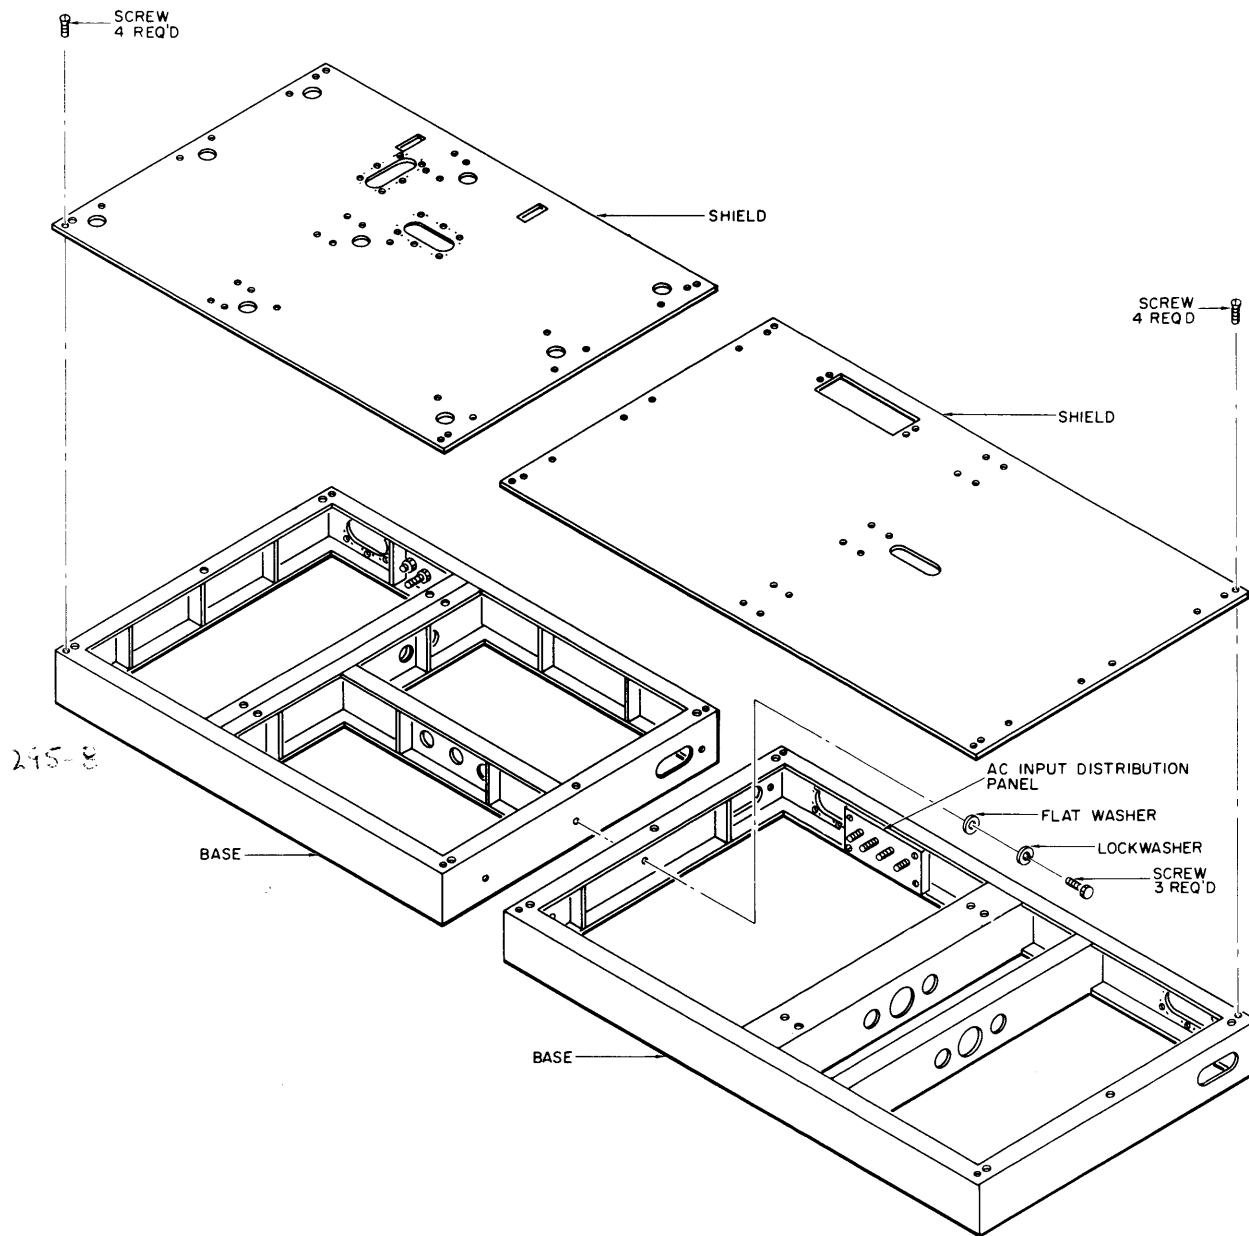

Figure 2-4. Base Assemblies for the First through Fourth Frames, Installation Diagram.
- b. Remove shield from base assembly, figure 2-4 , for the first and second frames. Shield will be replaced later.
- d. Using hardware from crate 1 bag 1, tightly bolt two base assemblies together (see figure 2-4).
- a. Properly position shield, figure 2-4 on base assembly for first and second frames.
- a. Properly position shield, figure 2-4, on base assembly for third and fourth frames.
- c. Using hardware previously removed, tightly bolt shield to base assembly (see figure 2-4).